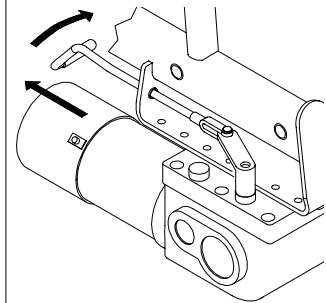

FIGURE 2 - DISENGAGING MOTORS WITH CLUTCHES
**B. DISENGAGING (FIGURE 2) -**